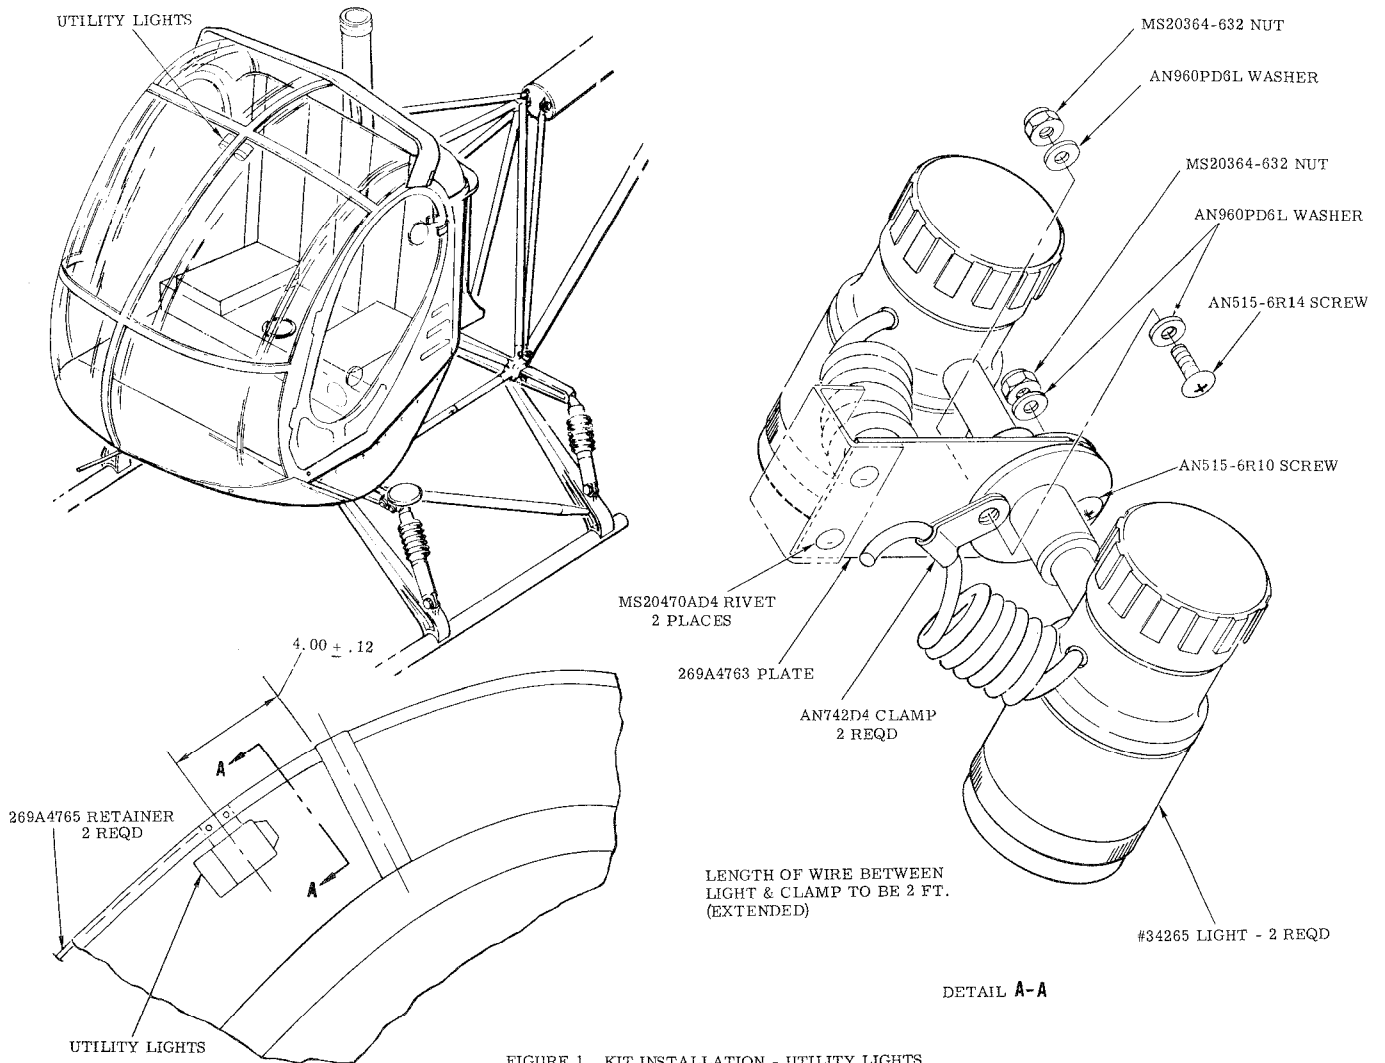

FIGURE 1. KIT INSTALLATION - UTILITY LIGHTS
- a. Position mounting plate on center canopy frame, per Figure 1; mark and drill rivet holes in canopy frame.